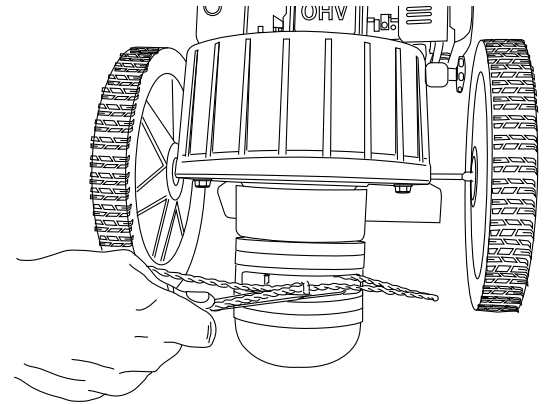

Figure 3
3. Pull the cord under the loop and push the loop up into the line plate groove above them (Figure 3) and then pull the cord ends tight.